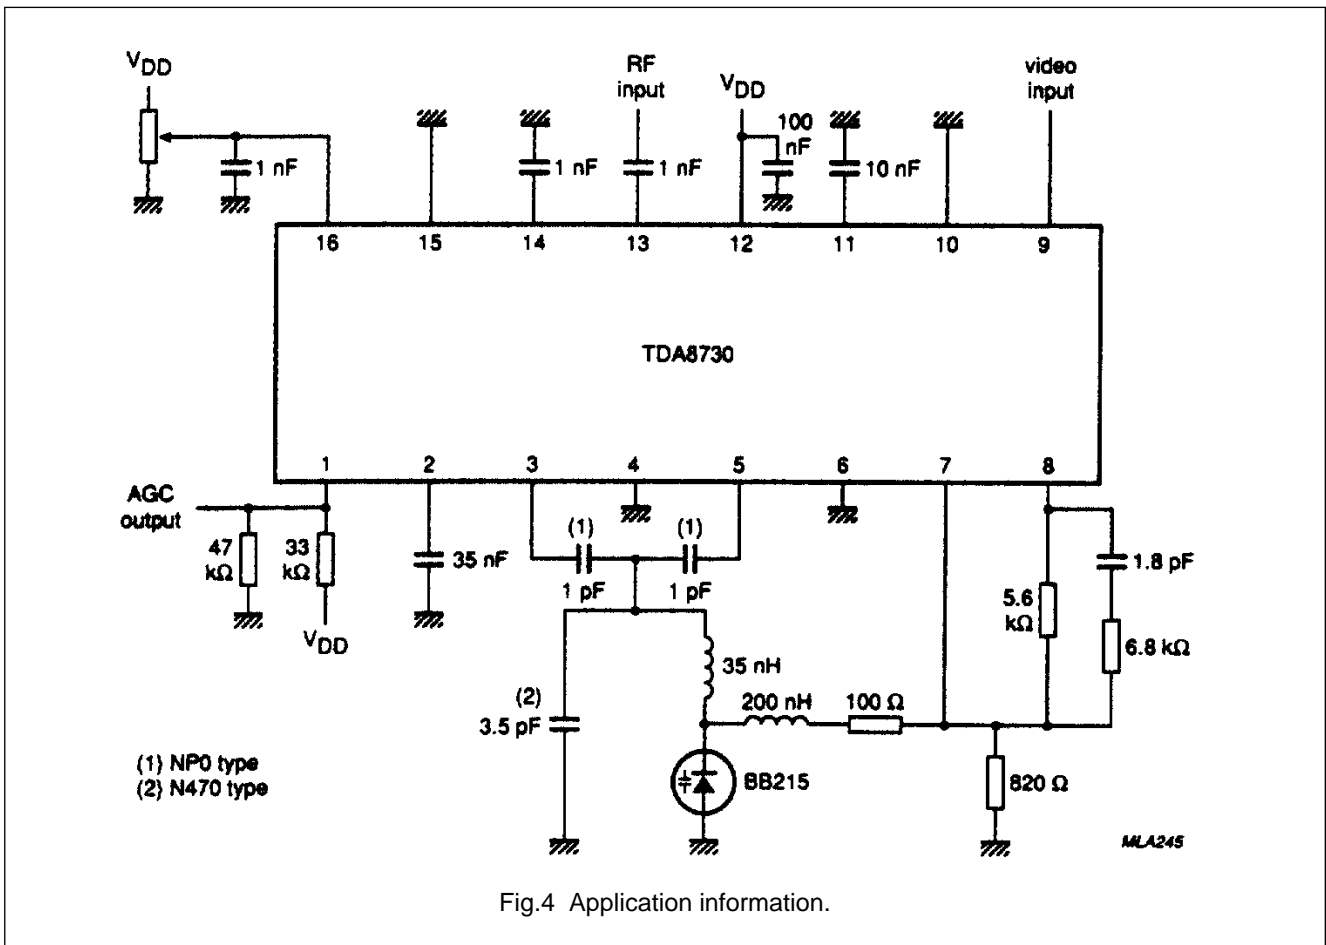

Fig.4 Application information.
**CHARACTERISTICS** $V_{DD} = 9\text{ V}$ ;  $T_{amb} = 25\text{ °C}$ ;  $f = 480\text{ MHz}$ ; Input level  $70\text{ dB}\mu\text{V}$ ; measured in circuit of Fig.4 unless otherwise specified.
The current consumption of this application is given by the addition of the supply current of the circuit plus the current consumption of external components in the application given. In this event (Fig.4) the typical current is 80 mA.
- The circuit of Fig.4 is designed for an input level of 70 dB $\mu$ V.
However, for levels other than 70 dB $\mu$ V the optimum loop filter values will be different from those given in Fig.4.
- In the application circuit of Fig.4 the RF input is asymmetrically driven.